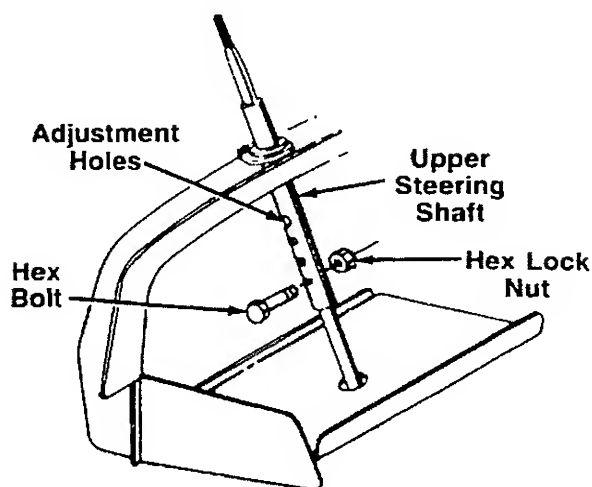

FIGURE 5.
2. Insert large end of the upper steering shaft through the hole in the dash panel, over the lower steering shaft. See figure 5. The four holes in the upper steering shaft provide four steering wheel heights. Select desired hole, and secure with hex bolt and hex lock nut.